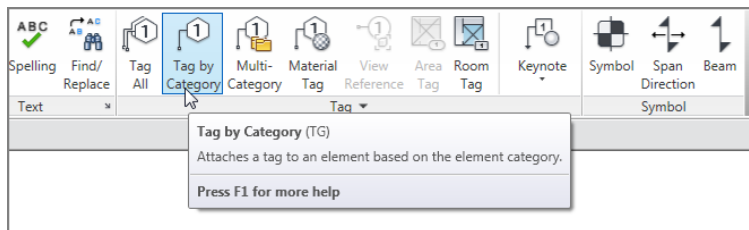

FIGURE 11.59: Click Tag By Category on the Annotate tab.
3. On the Tag panel of the Annotate tab, click the Tag By Category button, as shown in Figure 11.59.